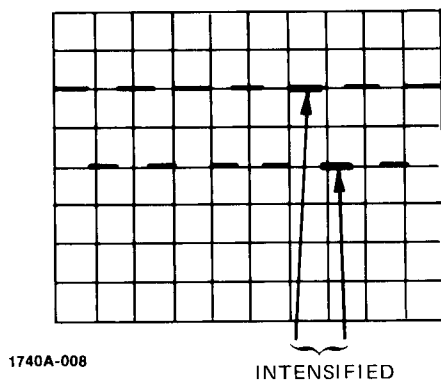

Figure 3-7. Normal Display with Intensified Area
c. Turn DELAY 47 clockwise until part of waveform in second half of CRT is intensified (see figure 3-7).